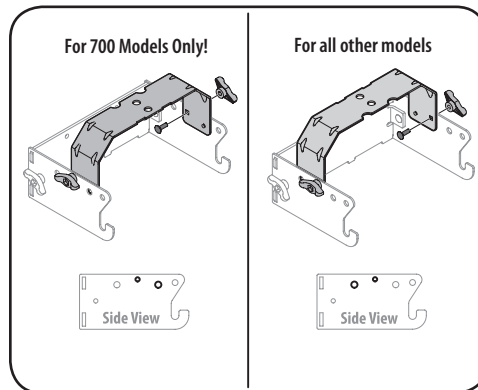

Figure 4-4
2. Flip over assembly and mount the hitch support bracket to the mounting assembly as shown in Figure 4-4.
**NOTE:** The holes closest to the mounting hooks are to be used for all 700 model series machines, while the two holes closest to the cross mount are for all other models. The hitch support bracket will need to be flipped to enable alignment of the proper holes depending on the model of machine this bagger is being installed on. See Figure 4-4.